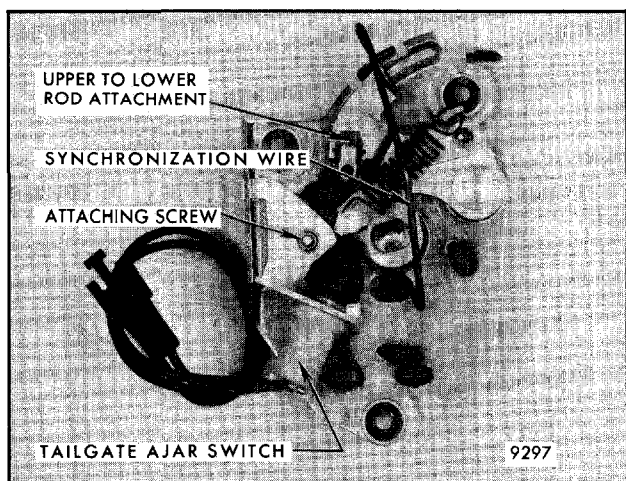

Fig. 7-148 - Tailgate Left Lower Lock Assembly
TAILGATE RIGHT LOWER LOCK ASSEMBLY (Fig. 7-148)
NOTE: All locks must be installed in the latched position to accomplish proper lock synchronization. All service replacement locks will have a synchronization wire installed and be in the latched position when received, Figure 7-148. This wire must be removed after installation and synchronization for proper lock operation.
2. Engage tailgate ajar switch harness (Fig. 7-148).